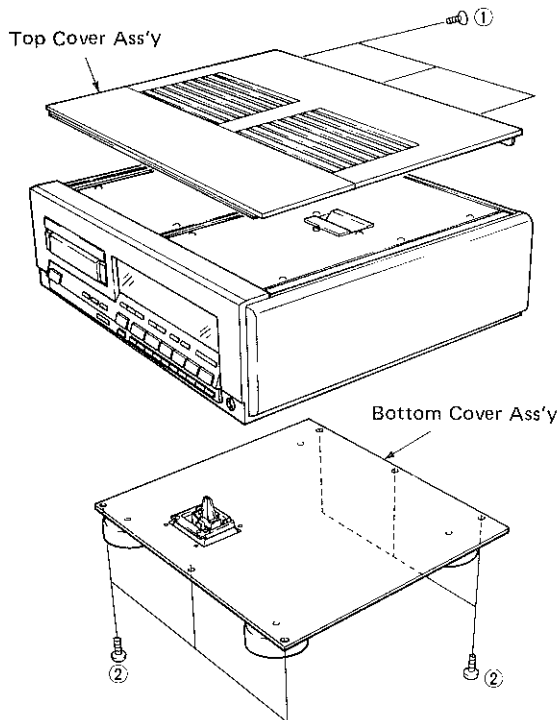

Fig. 1
Remove 3 screws (①) in Fig. 1, and then slide the Top Cover Ass'y to the back side.
Remove 6 screws (②) in Fig. 1.